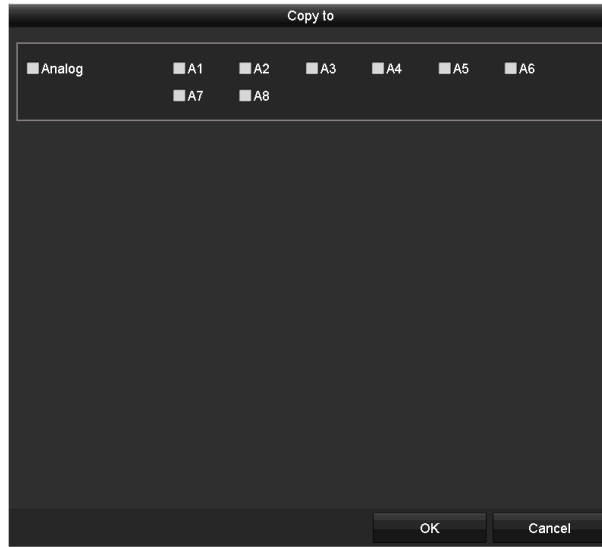

Figure 14-2 Copy Settings to Other Cameras
- 1) If you want to copy the OSD settings of the current camera to other cameras, click the **Copy** button to enter the **Copy Camera** interface, as shown in Figure 14-2.